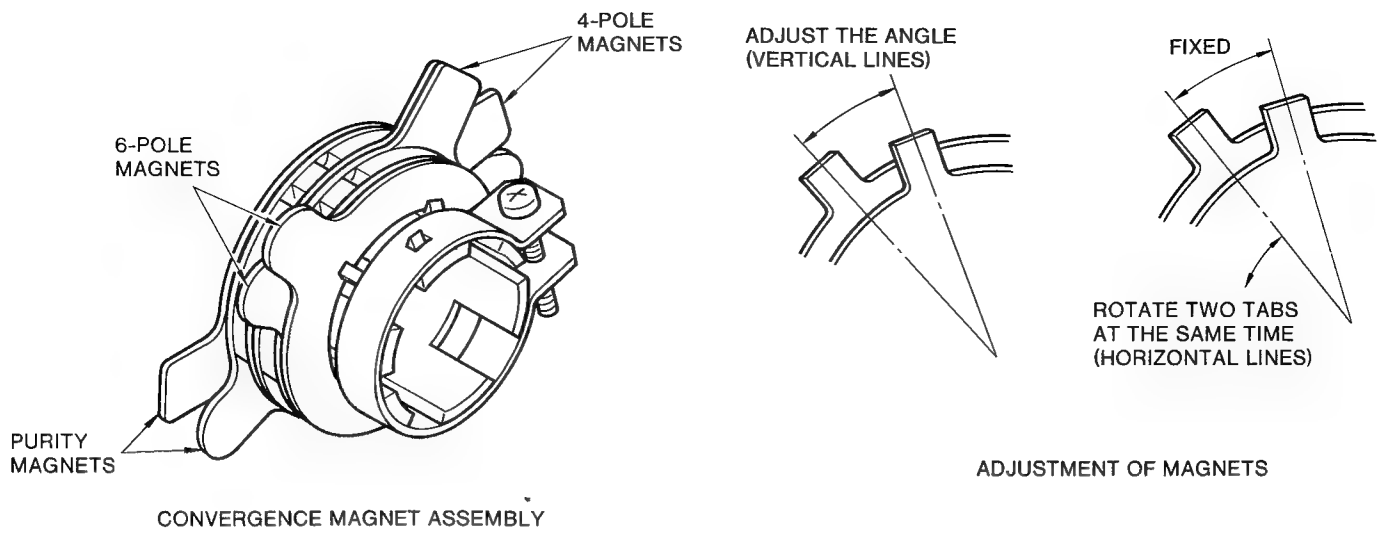
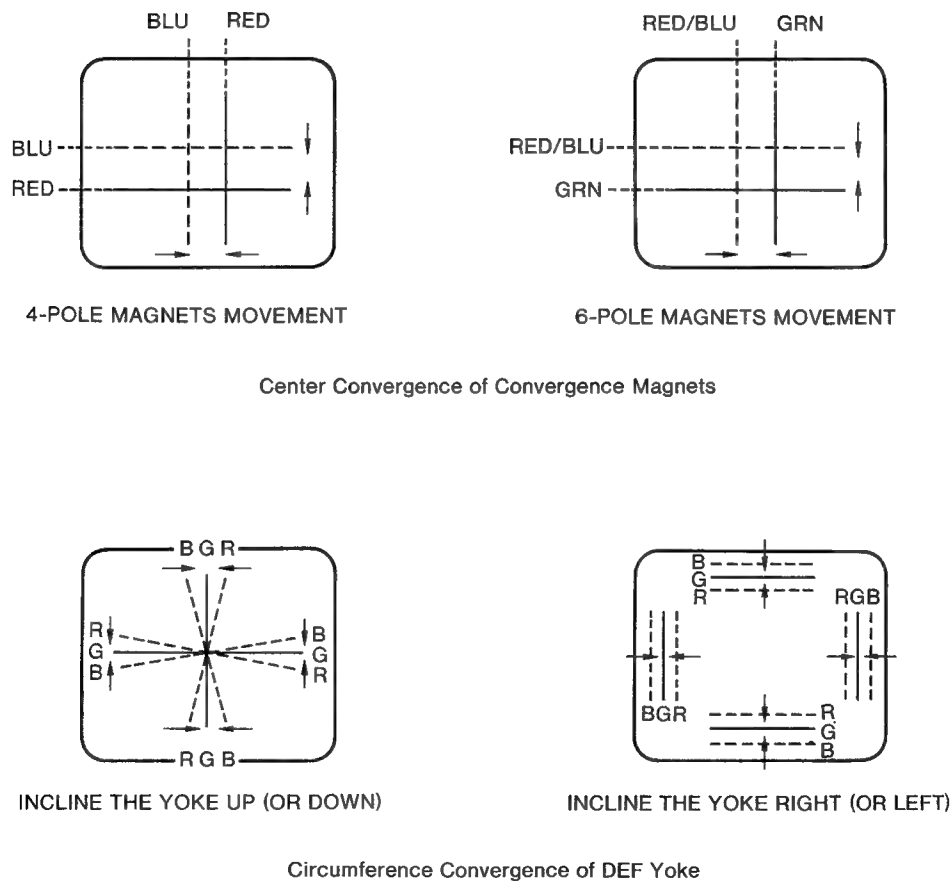

Figure 9.
Figure 10. Dot Movement Pattern
6. Rotate and spread the tabs of the purity magnet (See figure 9.) around the neck of the picture tube until the green belt is in the center of the screen. At the same time, center the raster vertically.
3. Adjust two tabs of the four-Pole Magnets to change the angle between them (See figure 9.) and superimpose red and blue vertical lines in the center area of the picture screen. (See figure 10.)
4. Turn both tabs at the same time keeping the angle constant to superimpose red and blue horizontal lines at the center of the screen. (See figure 10.)
3. Tilt front of the deflection yoke up or down to obtain better convergence in circumference. (See figure 10.) Push the mounted wedge into the space between the picture tube and the yoke to fix the yoke temporarily.
5. Tilt front of the yoke right or left to obtain better convergence in circumference. (See figure 10.)